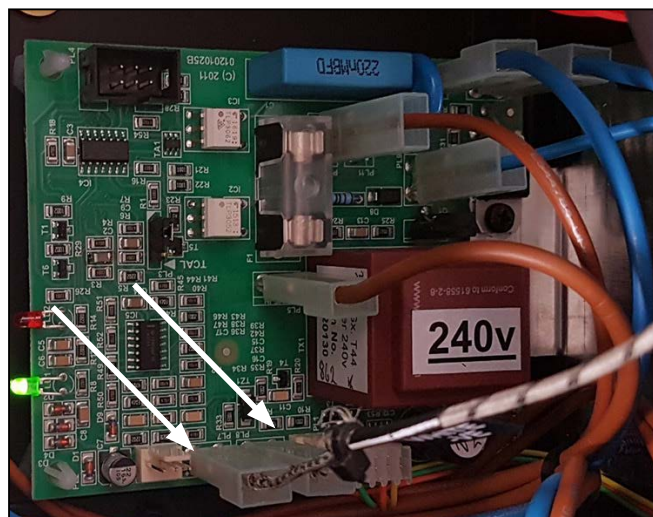

Figure 20: Digital mains PCB
5. Disconnect thermocouple wires. See figure 20 and figure 21.